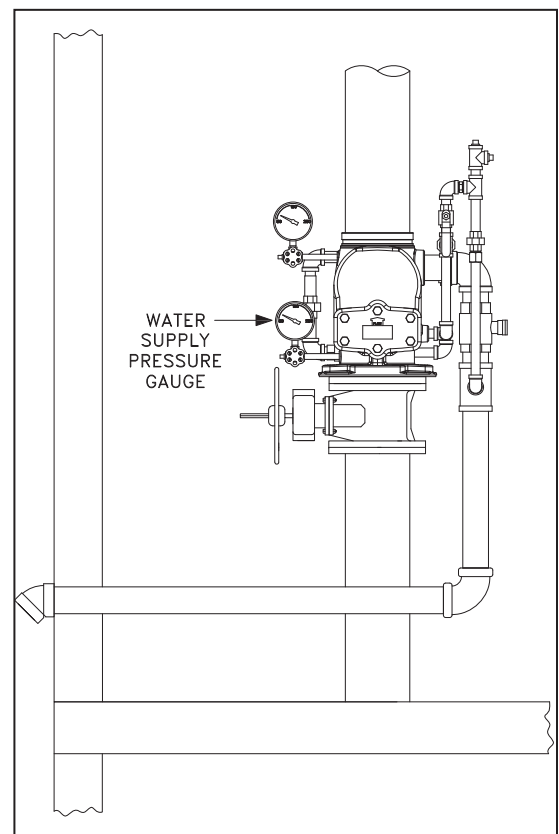

Figure 40
4. Record pressure reading from the water supply pressure gauge (Figure 40).